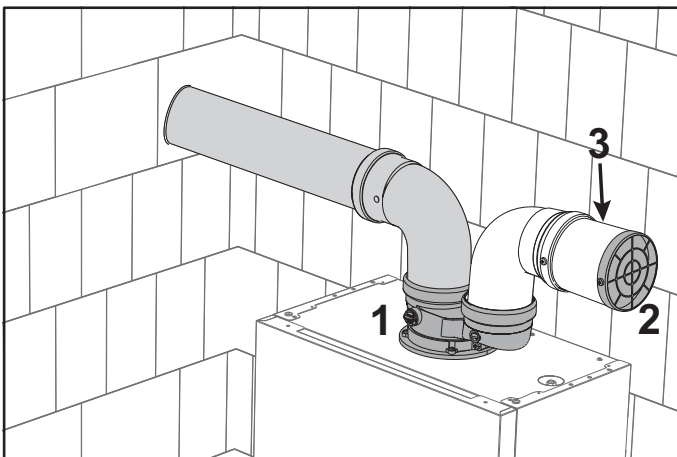

fig. 48- Protection grille
Install the starting accessory (ref. 1fig. 48 - code **041082X0**). The protection grille must be mounted in the intake duct (ref. 2 - fig. 48 - code **1KWMA85A**). If necessary, insert a short piece (3) between the grille and the accessory.